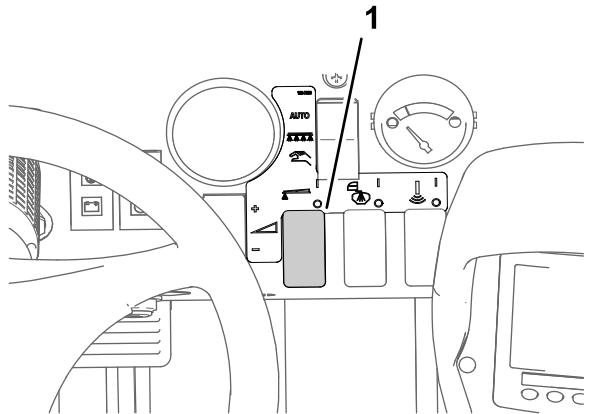

Figure 42
8. Use the application-rate switch to achieve the desired spray pressure as indicated in the nozzle-selection guide provided with the sprayer (Figure 42).
(Figure 42).